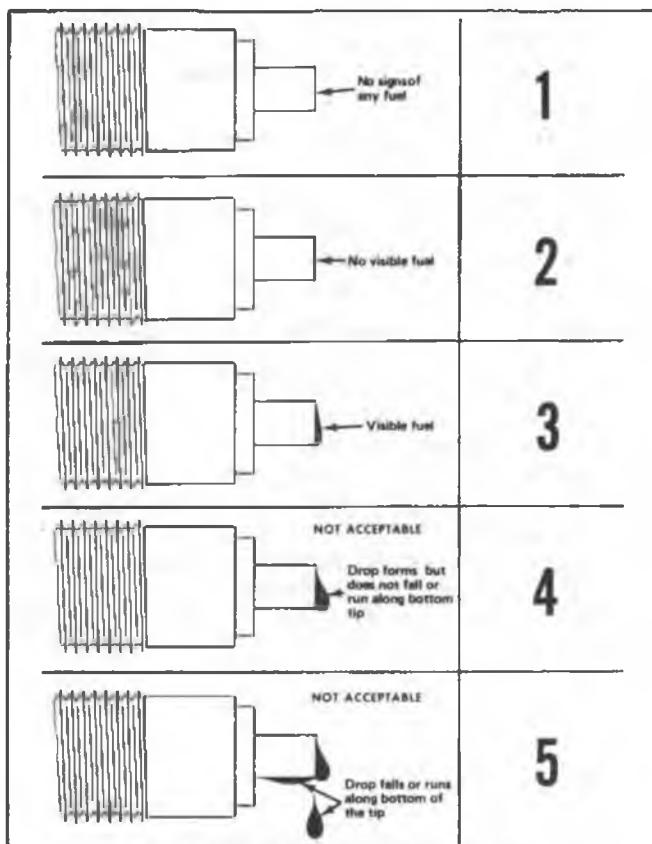

Fig. 5-11 Nozzle Seat Tightness Check
- (c.) SEAT TIGHTNESS—Slightly open the pressure gage for this test. The line pressure should first be allowed to fall to at least 290 psi (2,000 kPa) BELOW the actual opening pressure (Step 4A). Dry the nozzle tip with compressed air then increase the line pressure to 150 psi (1,034 kPa) BELOW the actual opening pressure (Step 4A). Maintain this pressure for five seconds. After 5 seconds, patterns 1, 2 and 3 are acceptable, patterns 4 and 5 are not acceptable (Fig. 5-11).